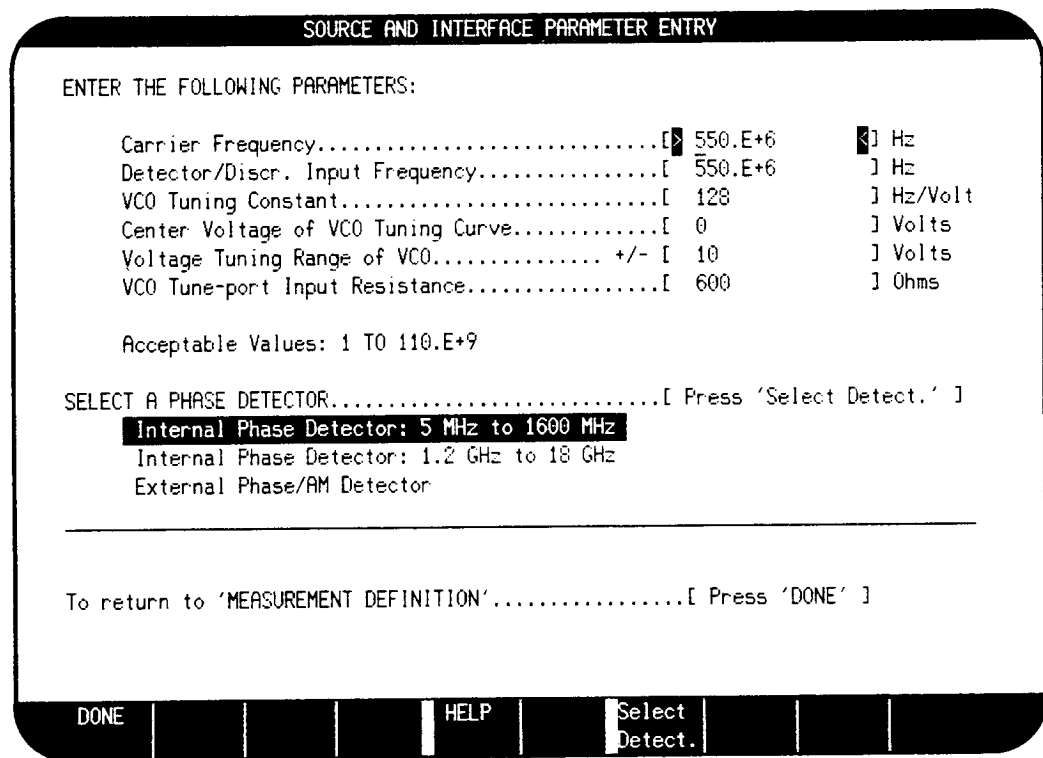

Figure 8-9. Source and Interface Parameter Entry Menu
- On the HP 3048A press the **Instr. Params** softkey to obtain the Source and Interface Parameter Entry menu. Set the parameters and phase detector as shown in figure 8-9. When done, press the **DONE** softkey.